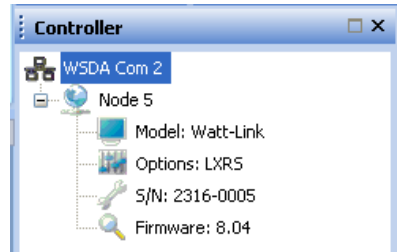

Figure 3. Node Information
8. A tree containing the model, serial number, and firmware version will appear. See Figure 3.